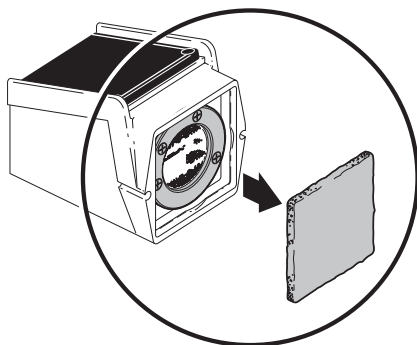

Figure 11-11. Remove Filter Foam
1. Remove and discard the Filter Foam—a new Filter Foam is provided in the Transducer Replacement Kit (Figure 11-11).